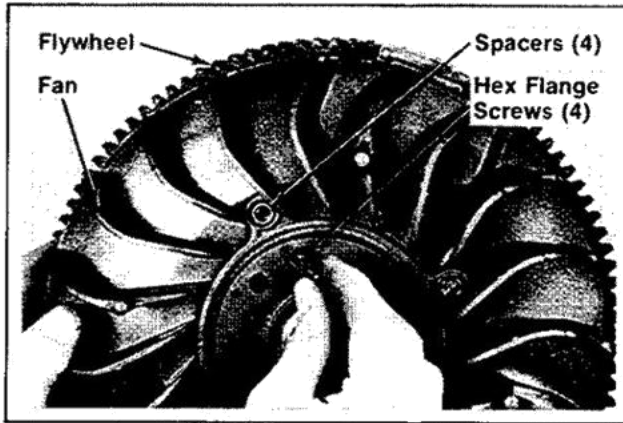

Figure 11-37. Installing Fan To Flywheel.
1. Install the spacers, fan, and hex flange screws. Torque screws to **115 in. lb.** Refer to Figure 11-37.